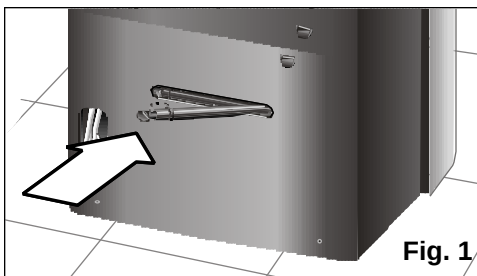

Fig. 1
- ❑ Make sure that the drainage plug is fully inserted. It may have come loose during transportation, **Fig. 1**.
- ❑ Check that the plug, **Fig. 1**, is fitted on the drainage pipe to prevent water from leaking onto the support surface.